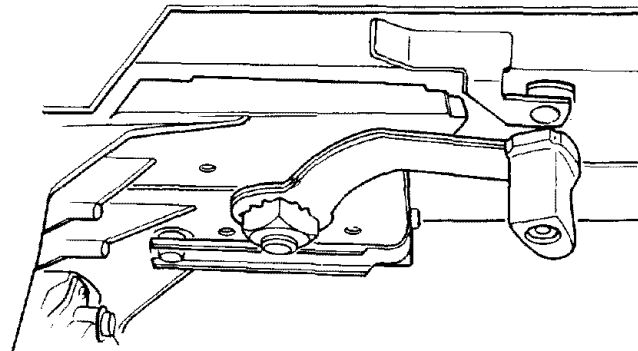

Fig. 151
1. Hold the *rip lock* in the unlocked position and with a 7/16 inch wrench tighten the 1/4-20 hex lock nut 1/4 turn. (Figure 151)